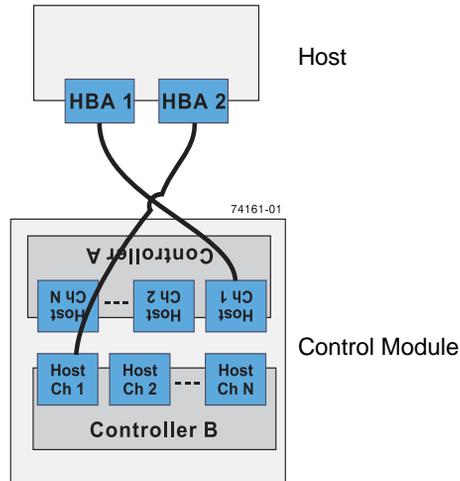

Figure 10 Direct Topology – One Host and a Dual-Controller Control Module
**NOTE** Start with controller A, and refer to Figures 10 through 12 on pages 23 and 24.